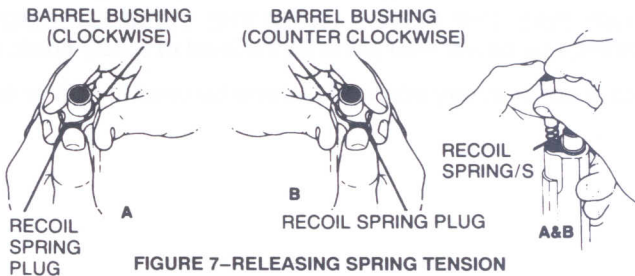

FIGURE 7—RELEASING SPRING TENSION
3. **(A)** Push slide back about  $\frac{1}{4}$  inch, press down on recoil spring plug (located just below muzzle) and at same time rotate barrel bushing **clockwise** about  $\frac{1}{4}$  turn, using barrel bushing wrench if necessary; this will free plug and recoil spring. Keep pressure on plug to prevent it being ejected by the spring, then allow plug and spring to gradually extend out of the slide. (See Figure 7).
3. **(B)** Press down on recoil spring plug (located just below muzzle) and at same time rotate barrel bushing **counterclockwise** about  $\frac{1}{4}$  turn (See Figure 7); then pull bushing forward and out. Using a screwdriver, push the recoil spring plug in and turn it about  $\frac{1}{2}$  turn to left or right. (See Figure 8). Control the spring force as you carefully allow the plug and two recoil springs to extend out of the slide. Remove plug from springs. (See Figure 7).
Install the barrel bushing over the recoil spring plug and into the slide. Press down on the recoil spring plug and at the same time rotate the barrel bushing clockwise about a  $\frac{1}{4}$  turn to lock it over the plug, (See Figure 7, page 34).